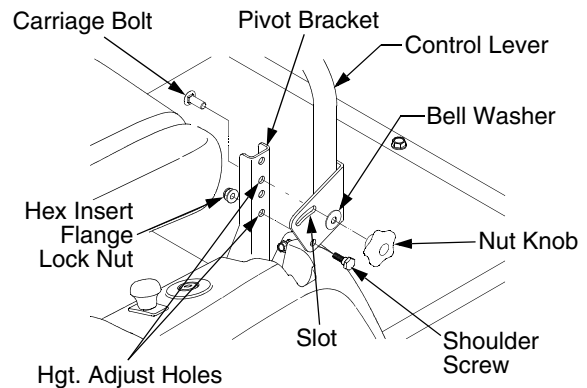

Figure 20
- While supporting the control lever to keep it from falling, remove the hex insert flange lock nut and shoulder screw from the bottom of the control lever and pivot bracket. Refer to Figure 20.
Loosen the nut knob and rotate the control lever either forward or rearward to the desired position. See Figure 20.